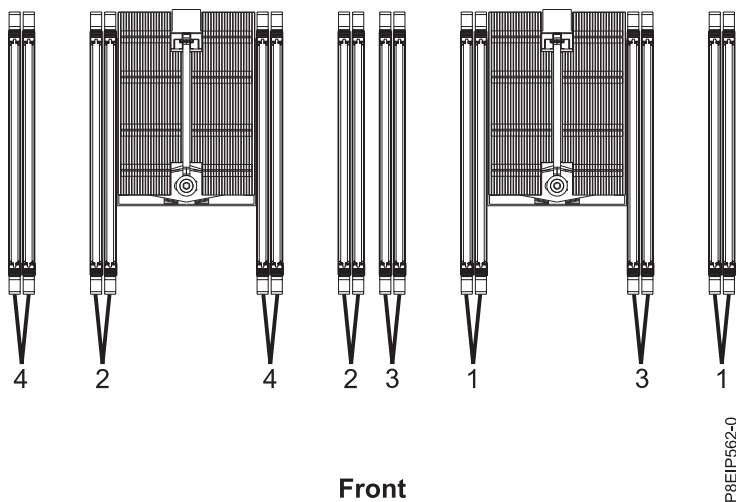

Figure 17. Memory slot locations and plugging sequence
- The memory DIMMs need to be added in a sequence. Use Table 4 and Figure 17 on page 20 to determine the memory placement.